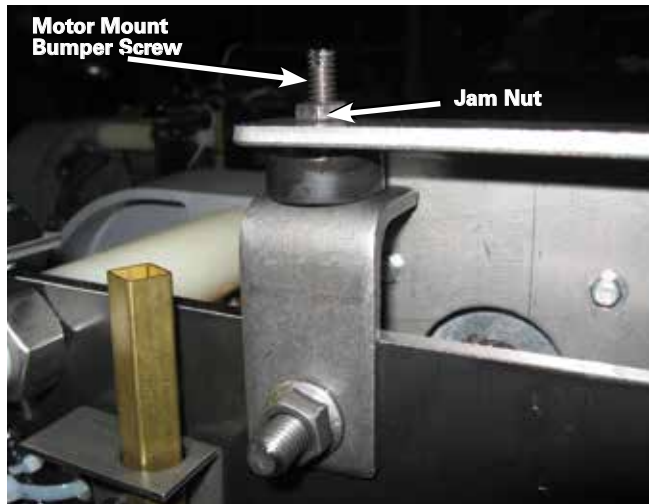

Figure 122. Chain tension.
- Adjust the chain tension by turning the motor bumper screw with a blade screw driver. Adjust the motor mount bumper screw until 1/4" deflection exists when exerting pressure on the chain. Secure the motor mount bumper screw in place with the jam nut using a 7/16" wrench. Refer to Figure 122.